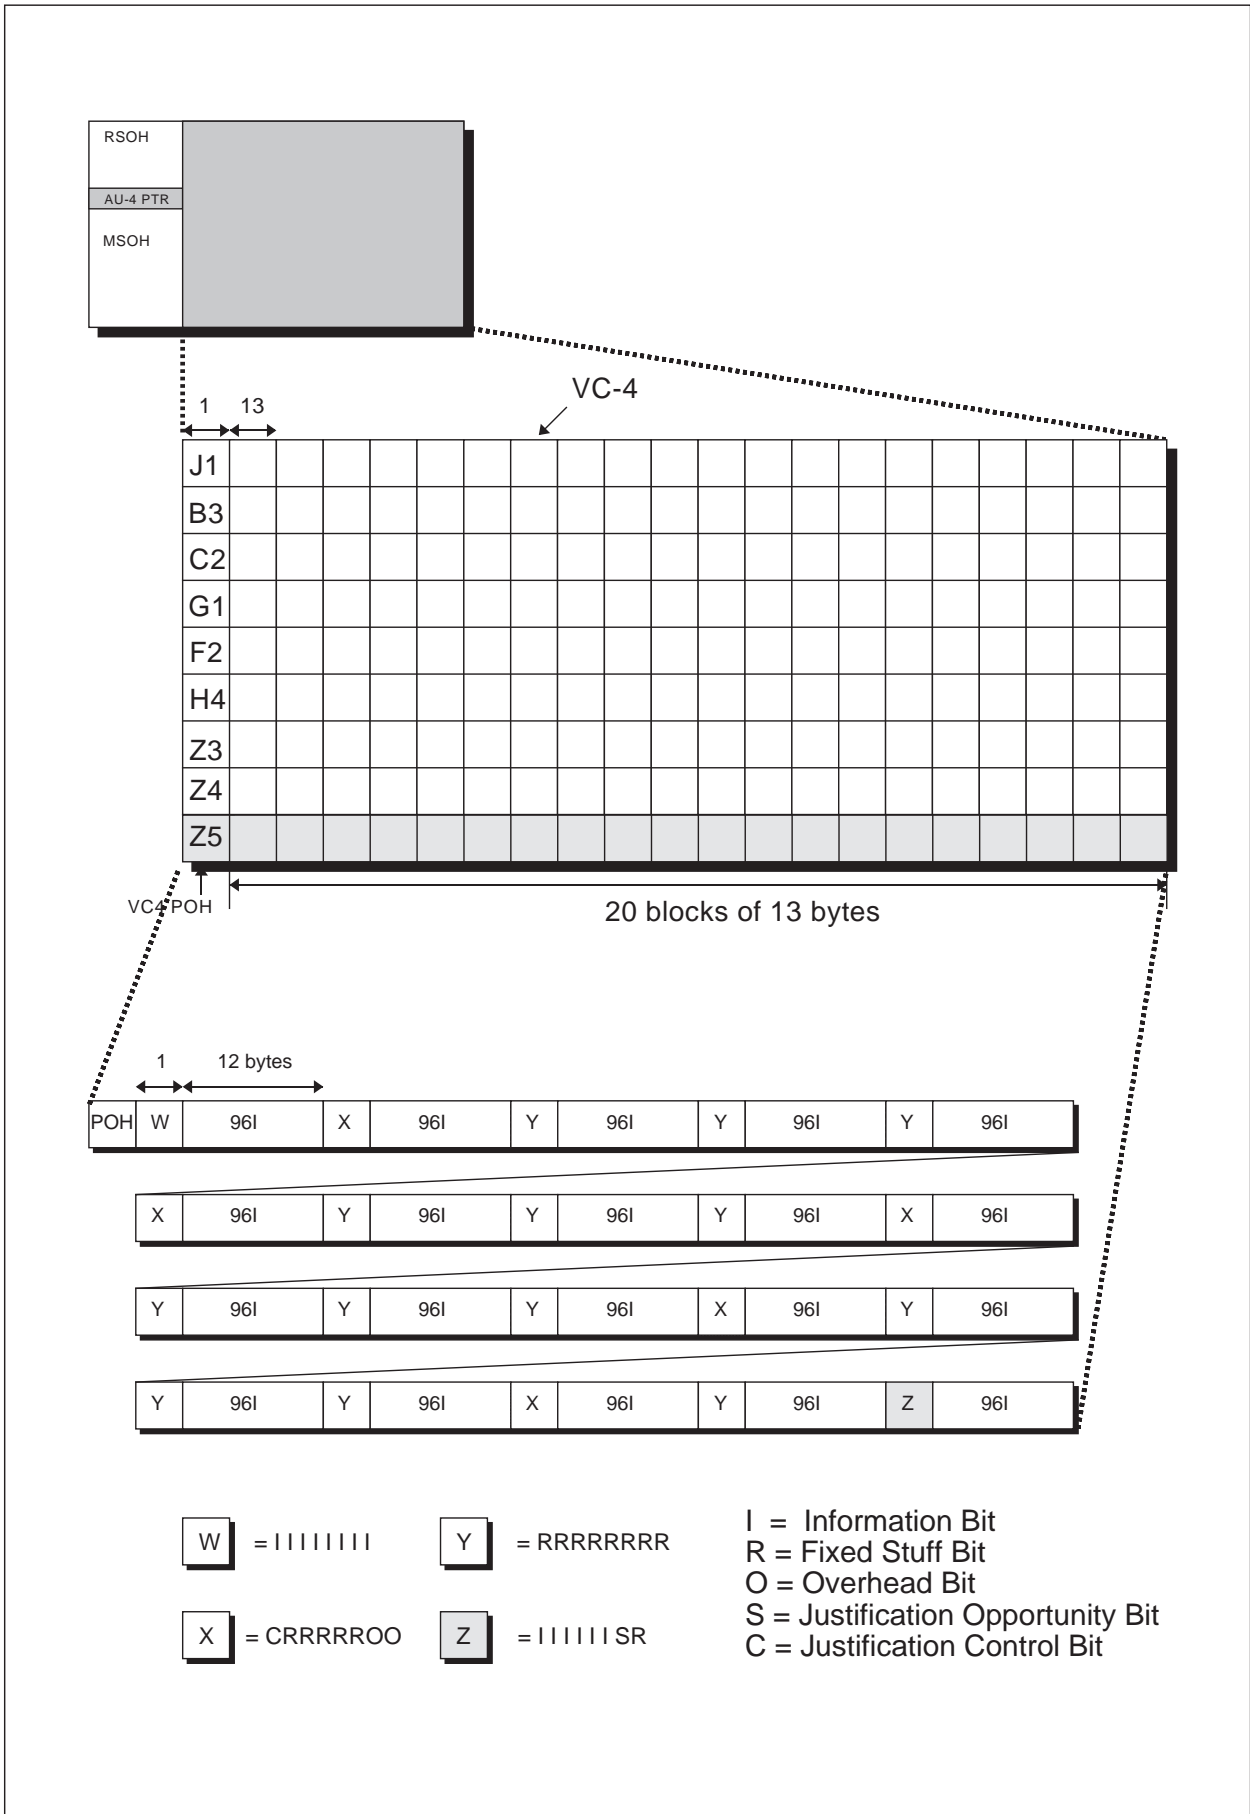

Figure 1-6 VC-4 Container Structure
Mapping jitter occurs when asynchronous signals are mapped in SDH or SONET frames. C-bit justification is performed to absorb the mismatch caused by the asynchronous signal frequency offset. This stuff bit called C bit (Justification control bit) causes jitter during demapping. The equipment reduces this mapping jitter using a PLL circuit, etc., and is required to meet the mapping jitter standards in ITU-T (International Telecommunication Union-Telecommunication) G.783 (for example, 139Mb/s f3-f4 0.075 Upp or less). Figure 1-6 shows the VC-4 container configuration in the SDH frame. The asynchronous signal frequency offset can be absorbed by embedding information into the justification opportunity bit (S) in each row in the VC4 container and then maps these into the SDH/SONET frame.